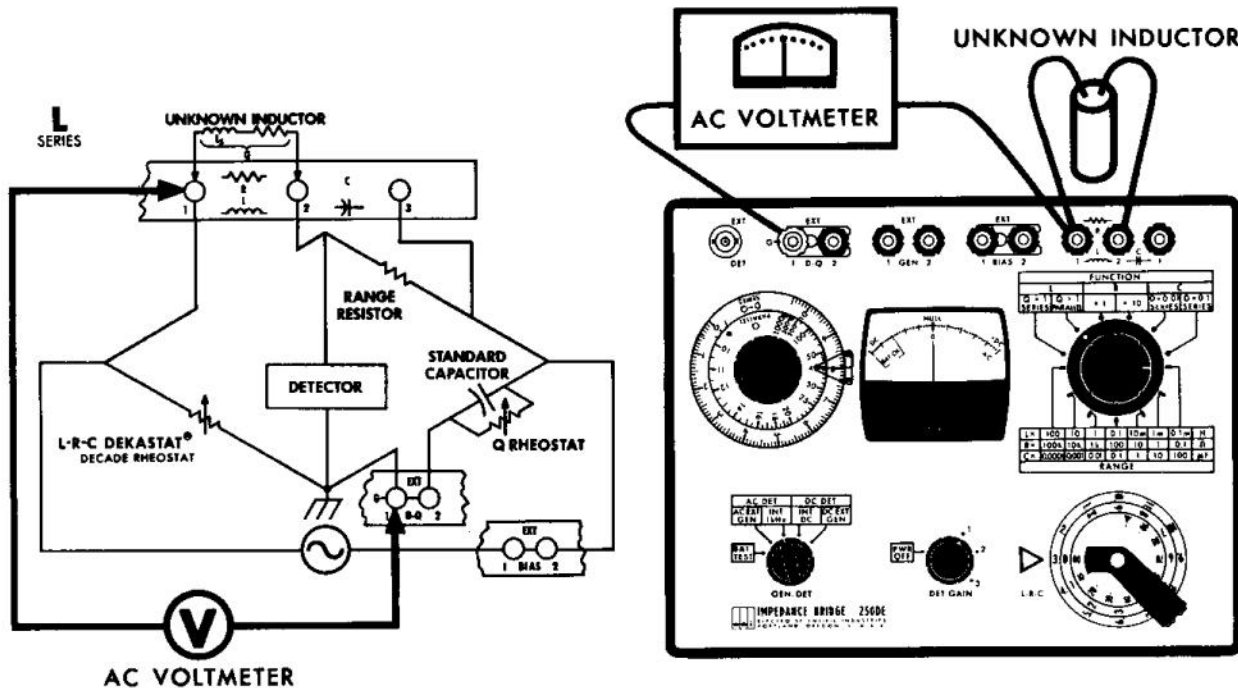

Figure 5-7. Voltage Measurement
1. Connect the ground terminal of the voltmeter to EXT D-Q terminal 1 and the other voltmeter terminal to R-L terminal 1 (see Figure 5-7).